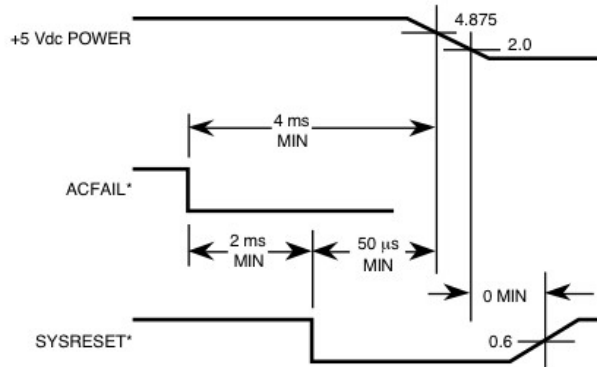

Figure 1.5: Power Monitor Power Failure Timing
- when ACFAIL* is asserted as shown in the figure 1.5. This feature can be enabled by using the SYS_CTRL.ACFAIL_EBL configuration register.